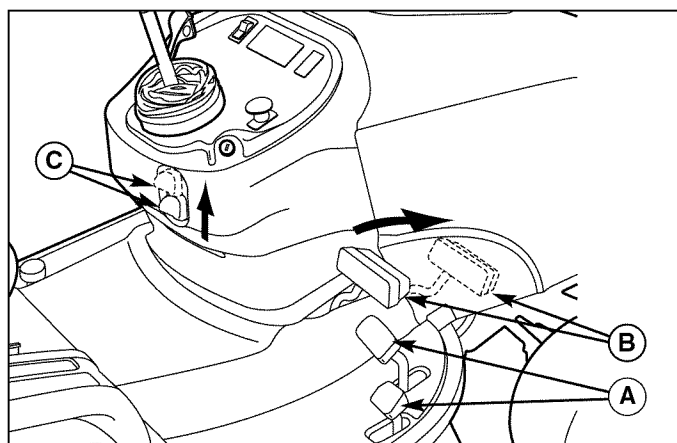

Figure 2. Engaging the Parking Brake
Applying the Parking Brake - See Figure 2. To lock the parking brake, release the ground speed pedals (A), fully depress the brake pedal (B), pull UP on the parking brake knob (C), and then release brake pedal.
Releasing the Parking Brake - See Figure 2. To release the parking brake, fully depress the brake pedal (B) and push the parking brake knob (C) DOWN.